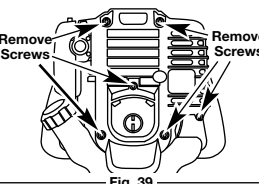

Fig. 39
- Remove the six (6) screws on the back of the engine cover with a Flat-head or T-25 Torx screwdriver (Fig. 39).
- Remove the engine cover (Fig. 39).
- Stop the engine and allow it to cool. Remove the six (6) screws on the back of the engine cover with a Flat-head or T-25 Torx screwdriver (Fig. 39).